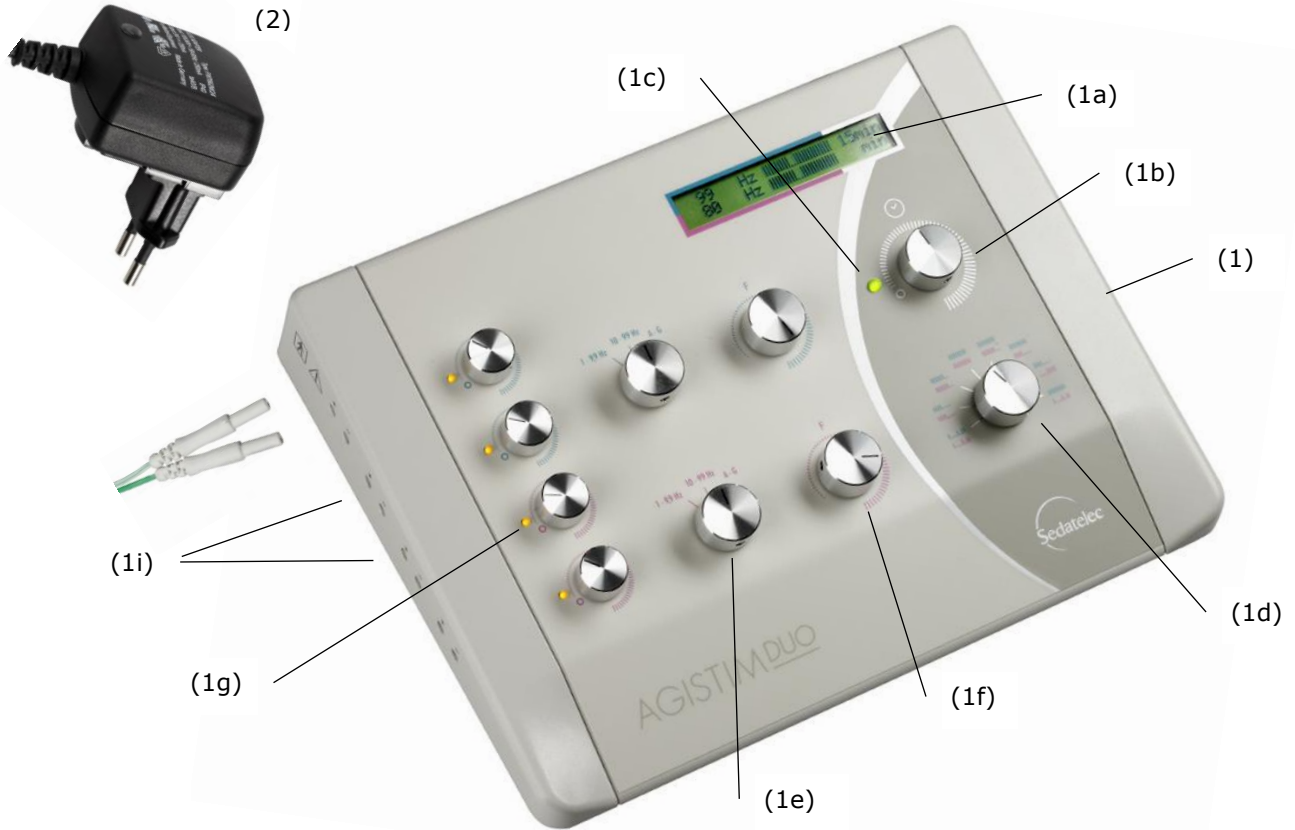

Figure 1: DESCRIPTION OF THE **AGISTIM DUO**
The **AGISTIM DUO** consists of a base box (1) and a safety mains supply (2) to connect it to the power supply (see FIGURE 1).